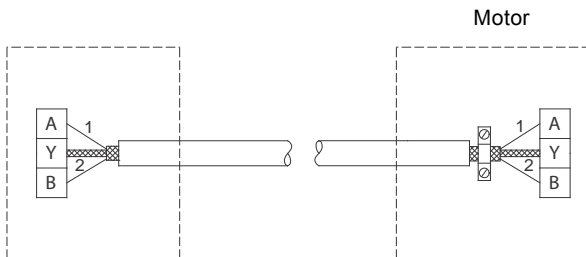

Fig. 12 Connection with screened 2-core cable
- If a screened 2-core cable is used in the existing installation, connect it as shown in fig. 12.